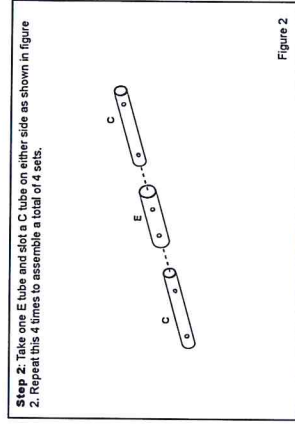

Figure 2
2. Move the tool along the tube, make sure the pivot inside the tube is aligned with the spring bead on the tube as shown in figure 2.